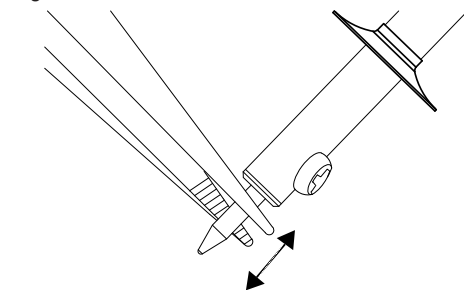

Fig. 7
2. Remove the tip and replace. (Fig. 7)